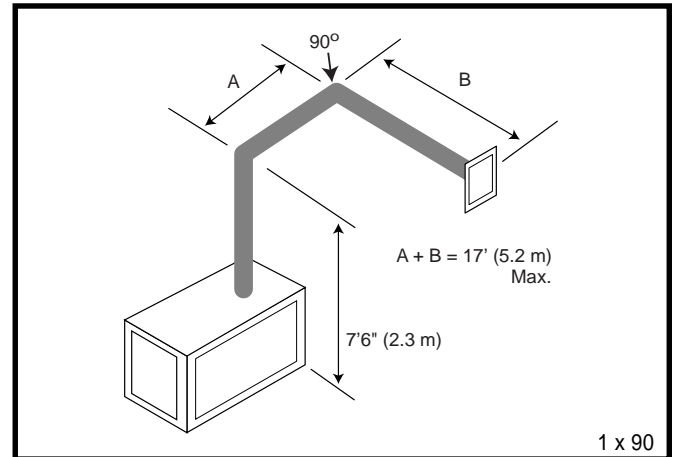

Fig. 23 Horizontal run reduction
- If a 90° elbow is used in the horizontal vent run (level height maintained), the maximum horizontal vent length is reduced by 36 in. (914 mm) (Fig. 23). This does not apply if the 90° elbows are used to increase or redirect a vertical rise.
NOTE: The sum of Dim. A and Dim. B must not be greater than 17 ft. (5.2 m). See Fig. 23.